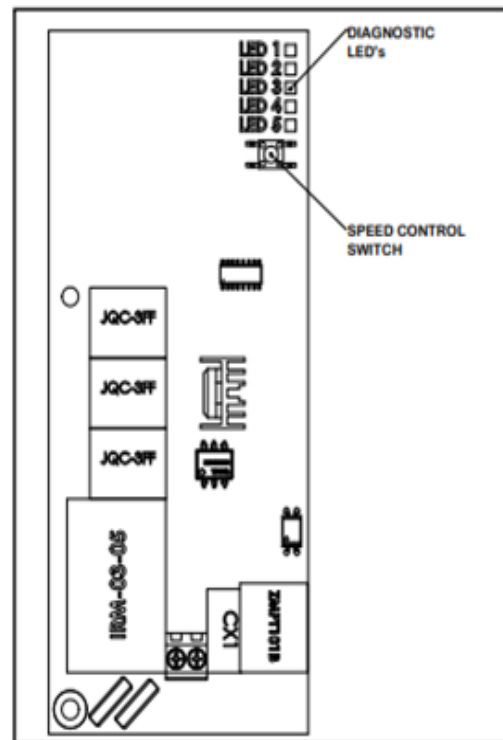

FIG 2
These models include adjustable blower speed control for (3) levels of operation - Hi, Med and Low. The switch is located on the printed circuit board inside the dryer as shown in FIG 2.
3. Locate the switch on the printed circuit board inside the dryer as shown in FIG 2 and adjust blower speed as desired. (Note: When Med or Low speed is selected, LED 3 on the printed circuit board will be lit). Reassemble the dryer cover using the security hex key supplied to turn the cover mounting screws counter-clockwise and tighten until snug. Do not over tighten.